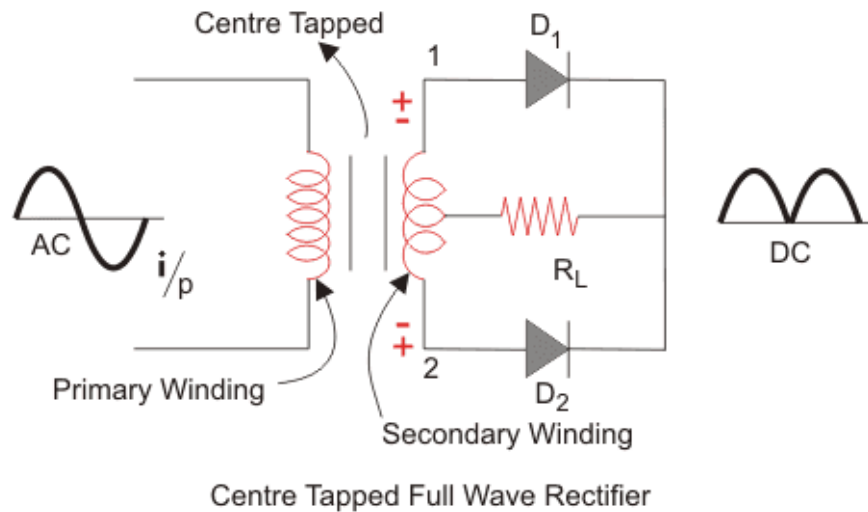

Figure 4
*In order to overcome the disadvantages of HWR, scientists developed a new type of rectifier known as **center tapped full wave rectifier (CT-FWR)** as shown in Figure 4.*